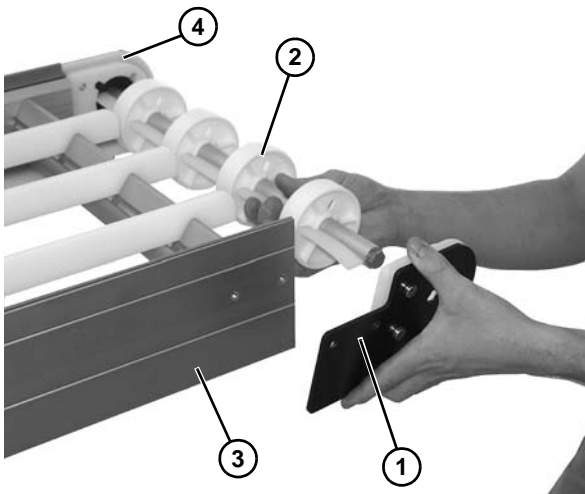

Figure 60
3. Remove end plate (**Figure 60, item 1**) and roller assembly (**Figure 60, item 2**) from conveyor frame (**Figure 60, item 3**) and opposite end plate (**Figure 60, item 4**).